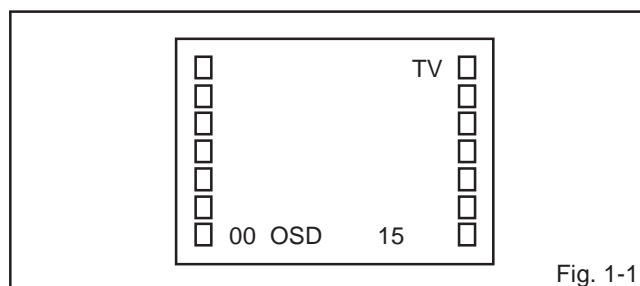

Fig. 1-1
2. Press the VOL. DOWN button on the set and the Channel button (9) on the remote control simultaneously to appear the adjustment mode on the screen as shown in Fig. 1-1.
7. Activate the adjustment mode display of Fig. 1-1 and press the channel button (03) on the remote control to select "VIF VCO".
3. Activate the adjustment mode display of **Fig. 1-1** and press the channel button **(02)** on the remote control to select "RF AGC".
5. Activate the adjustment mode display of **Fig. 1-1** and press the channel button **(01)** on the remote control to select "CUT OFF".
4. Activate the adjustment mode display of **Fig. 1-1** and press the channel button **(10)** on the remote control to select "R.BIAS".
3. Activate the adjustment mode display of **Fig. 1-1** and press the channel button **(05)** on the remote control to select "H PHASE".
3. Activate the adjustment mode display of **Fig. 1-1** and press the channel button **(07)** on the remote control to select "V SHIFT".
3. Activate the adjustment mode display of **Fig. 1-1** and press the channel button **(06)** on the remote control to select "V SIZE".
3. Activate the adjustment mode display of **Fig. 1-1** and press the channel button **(13)** on the remote control to select "BRIGHTNESS".